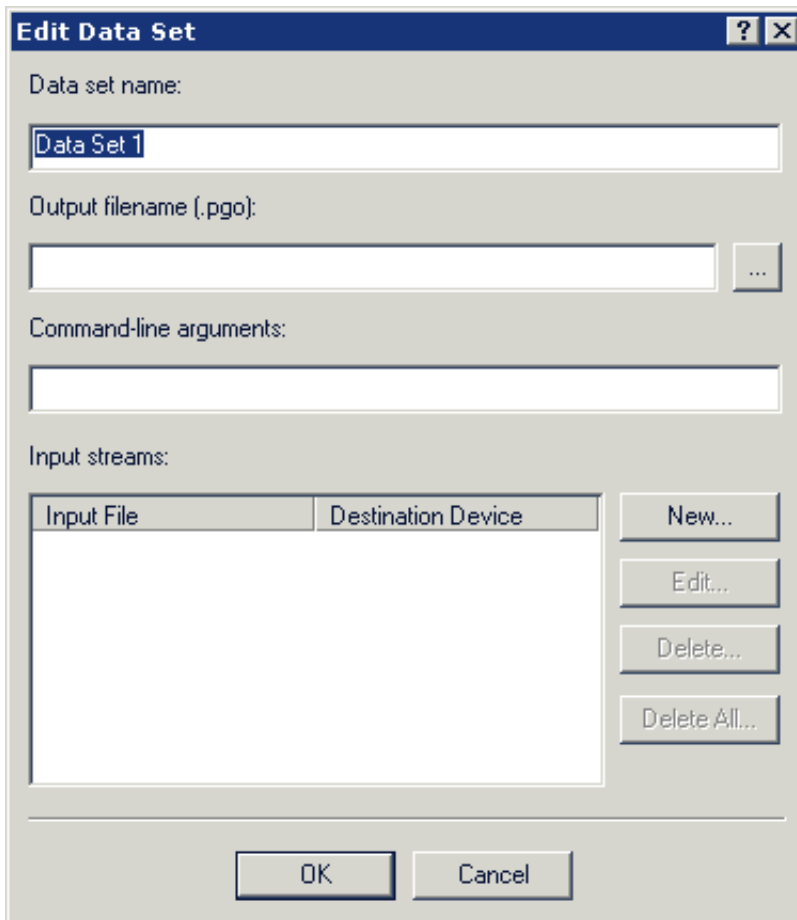
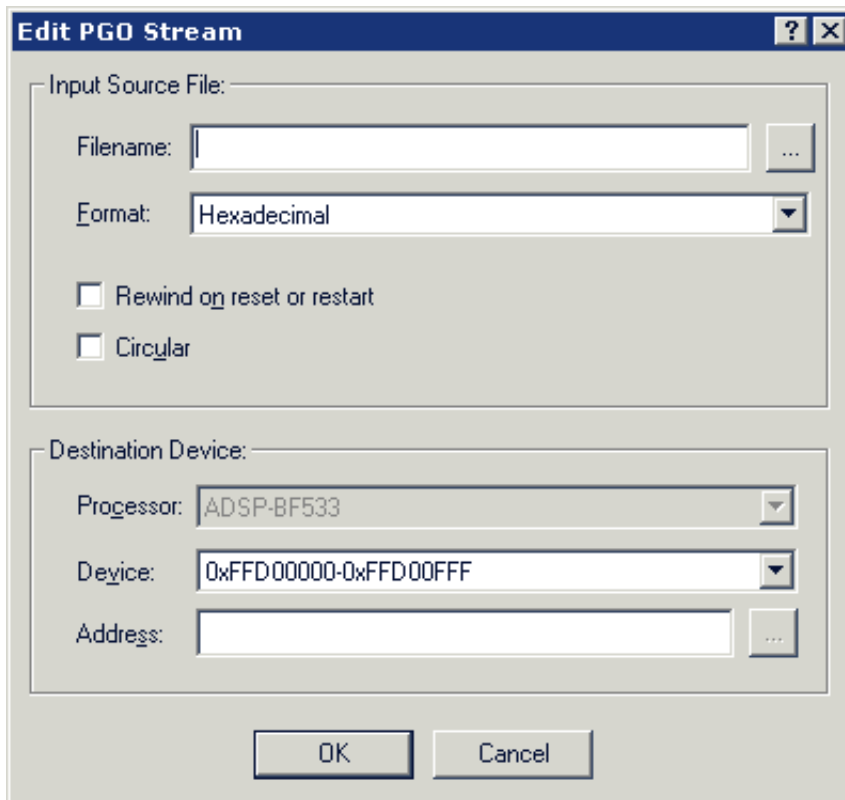

Figure 3-3. Edit Data Set Dialog Box
Figure 3-4. Edit PGO Stream Dialog Box
2. Click the **New** button to open the **Edit Data Set** dialog box, shown in Figure 3-3.
1. Click the **New** button on the Edit Data Set Dialog Box (Figure 3-3) to open the **Edit PGO Stream** dialog box, shown in Figure 3-4.